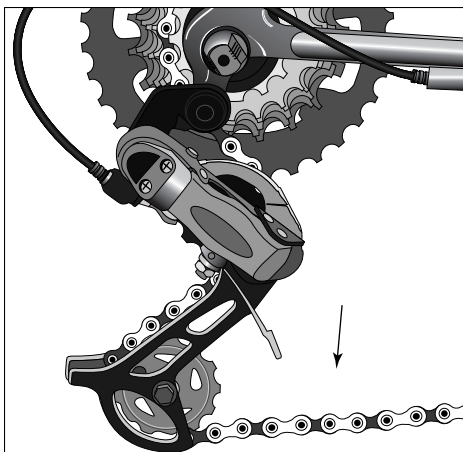
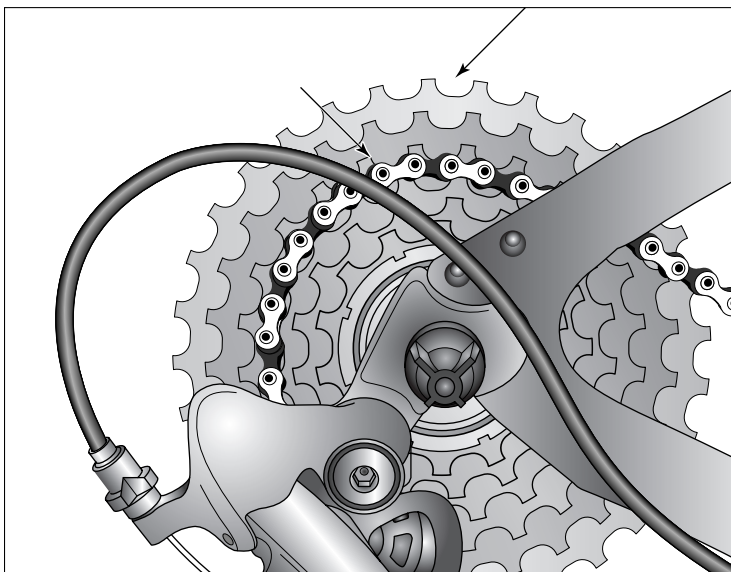

Figure 16-9:
Figure 16-10:
- ✓ **Chain and sprockets:** Of all the parts to lubricate on a bike, the chain is the most important. A poorly lubricated chain will wear out quickly and can shorten the lifespan of your chainrings and sprocket. Apply an even amount of lube to the chain while you're turning the cranks (see Figure 16-9). You want to make sure that the oil does more than coat the surface but works its way into the individual chain links. If you notice that there is buildup of dirt and grime on the chain, clean it first with a degreaser and then apply a fresh coat of lubrication. When you're finished with the chain, apply a few drops of lube to the sprockets (see Figure 16-10).